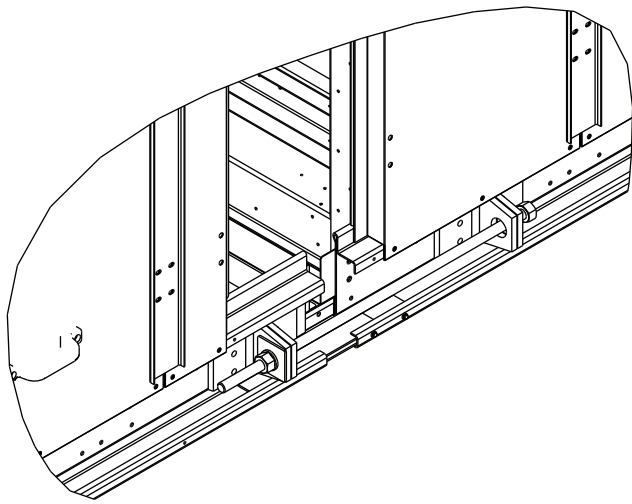

Fig. 39 — Secure Base Rails
10. Using 3/4 in. x 30 in. threaded rod, nuts, washers and backing plates provided, pull and secure the base rails together. See Fig. 39.